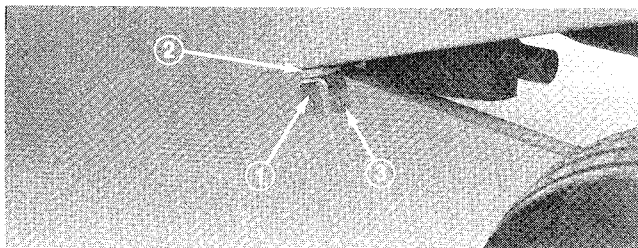

Figure 4
3. Remove capscrew and flangenut securing front engine support to frame. Secure Belly Shield hanger and engine support to frame with 3/8 x 1-1/4 capscrew and flangenut. Repeat procedure on opposite side of machine (Fig. 4). Discard 3/8" x 1" long capscrew removed (gas units only).